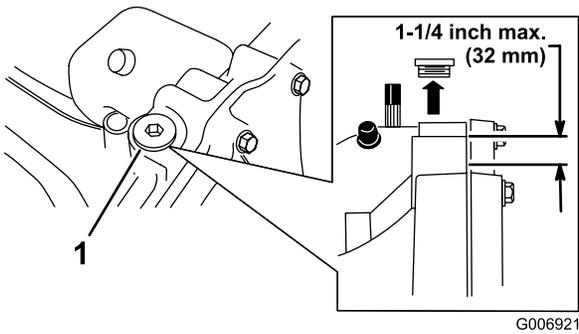

Figure 42
4. Clean around the fill plug (Figure 42) so that dirt cannot fall into the reservoir if you need to add fluid.
Note: The level should be a maximum of 1-1/4 inch (32 mm) below the top of the fill port (Figure 42). Add fluid if necessary.